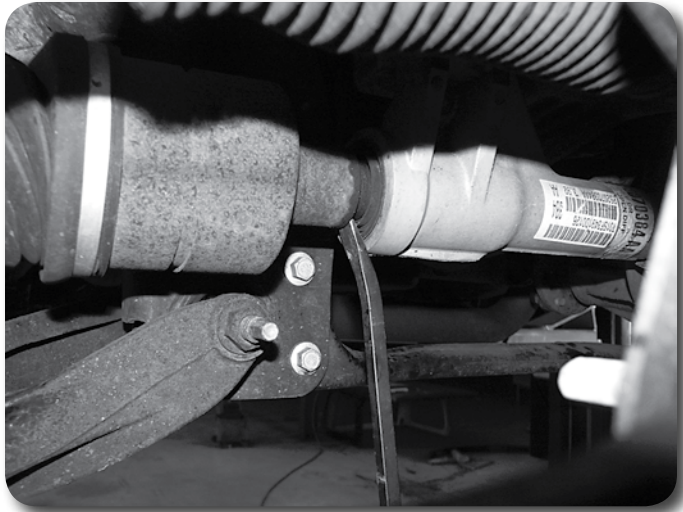

Figure 6
16. Disconnect the CV axles from the differential by carefully prying CV out at the differential to disengage the internal retaining clip Figure 6. Pry the shaft out just enough to release the clip and leave the axle on the differential at this time.